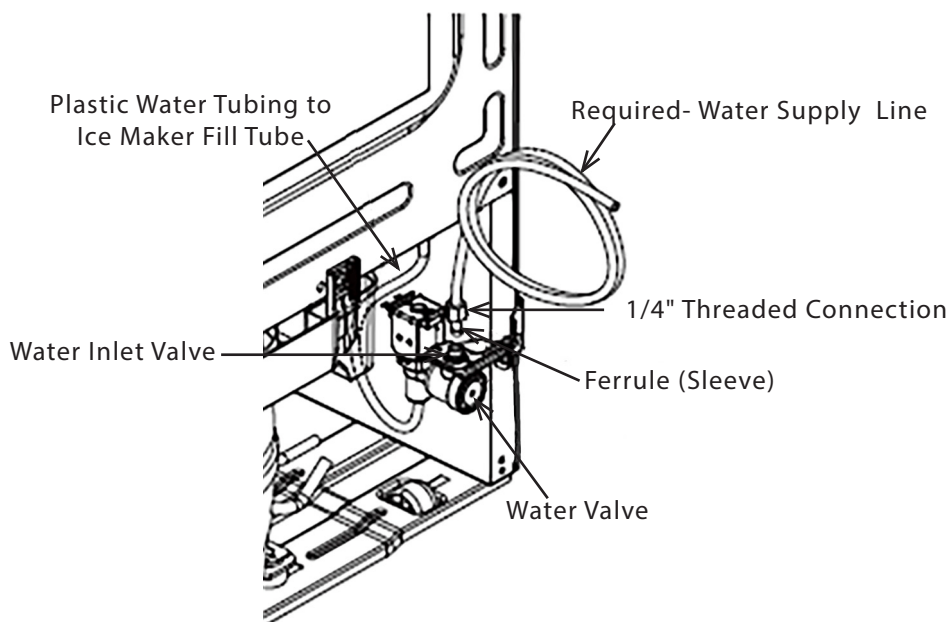

Fig. 4
2. Remove the plastic flexible cap from the water valve inlet (Fig. 4).
3. Make the appropriate water line connections between the refrigerator and main water supply (Fig. 4).